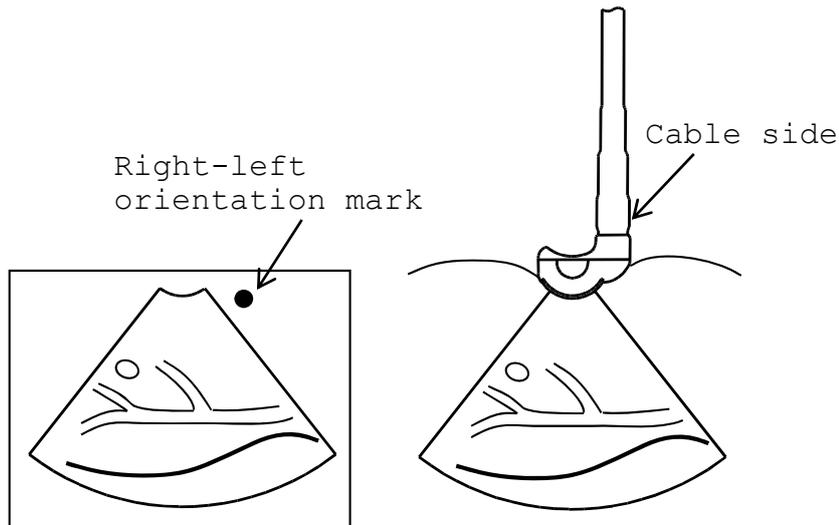

Fig. 2 Relationship between the directions of the probe and the Right-left orientation mark
- 4) Relationship between direction of the probe and the image is shown in Fig.2. The right-left orientation mark on the image indicates the direction of the cable side of the probe.